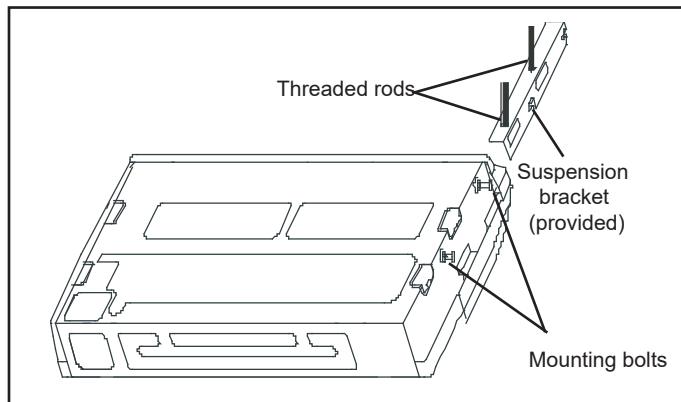

Figure 7. Suspend Unit
- Install four factory-provided mounting bolts by screwing them into the provided threaded holes in the unit body. See Figure 7 for mounting bolt installation locations. The bolts should only extend from the body a distance which enables the bracket to engage the bolts and secure the unit.